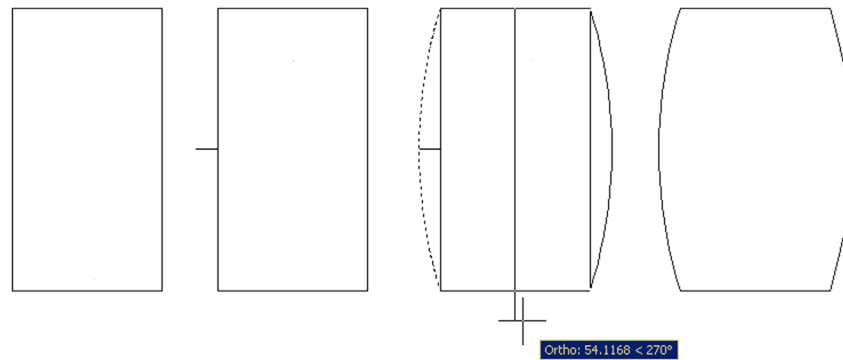

FIGURE 4.19 Constructing the table.
- To create the kitchen table you could use a rectangle with a small straight guideline sticking out from the midpoint of the left side. That could be the anchor for the second point of the arc. Then, a mirror followed by an “explode” and “erase” finishes it off, as seen in Fig. 4.19.